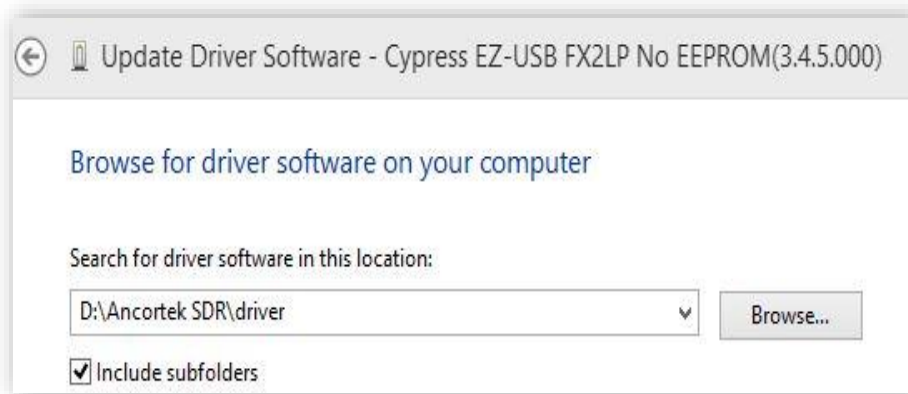

Figure 6 - Update Driver Software.
5. Select the driver in the installation directory "Ancortek SDR/driver" according to Figure 6 below.